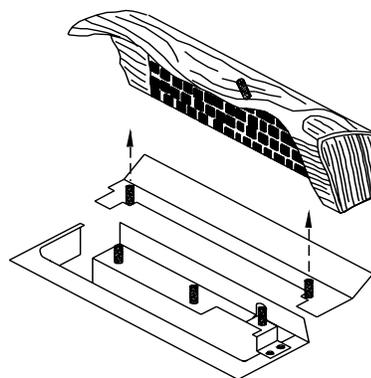

Figure 10
- 2) Align the holes in the bottom of the rear log (the longest log in the set) with the two pegs just to the rear of the rear burner tube and slide the log down onto the pegs (*Figure 10*). The charred black surface of the log should face the front.